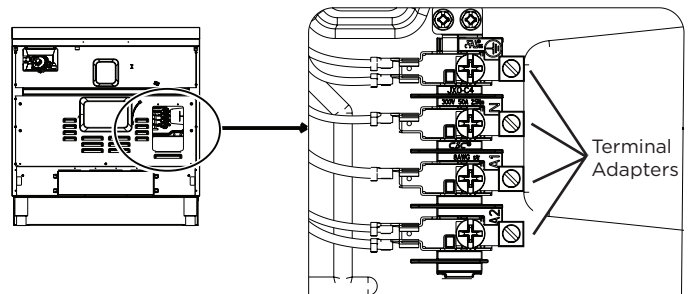

Figure 8: Terminal Adapters
3. Attach Terminal adapters (4X) supplied in the kit to terminal block by removing the intended screw, slipping the adapter onto screw and screwing it back into position. Attach all 4 adapters. Refer the figure 8.